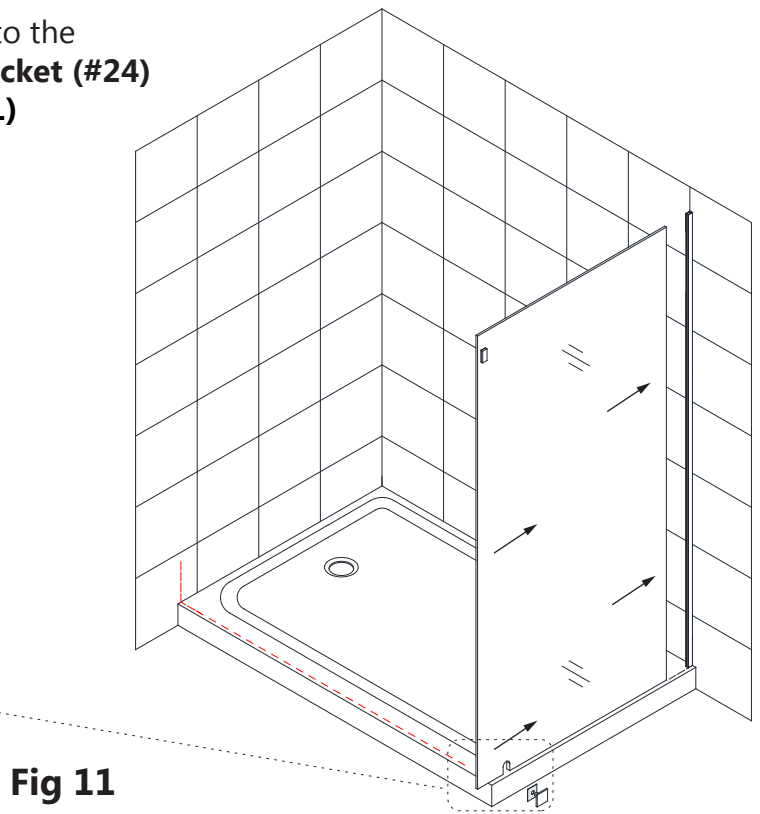

Fig 11
11. Place the **Return Panel Glass (#22)** back into the **U-Channel (#01)** and assemble the **Bottom Bracket (#24)** to secure the **Return Panel Glass (#22)**. (**Fig 11**)